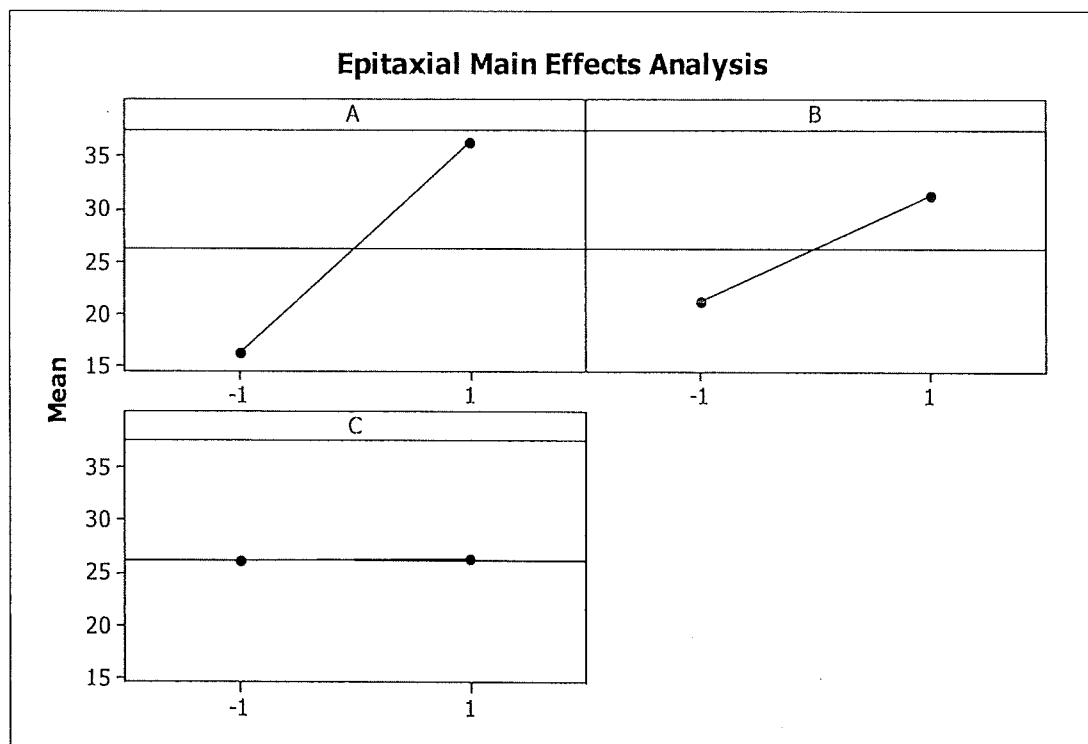
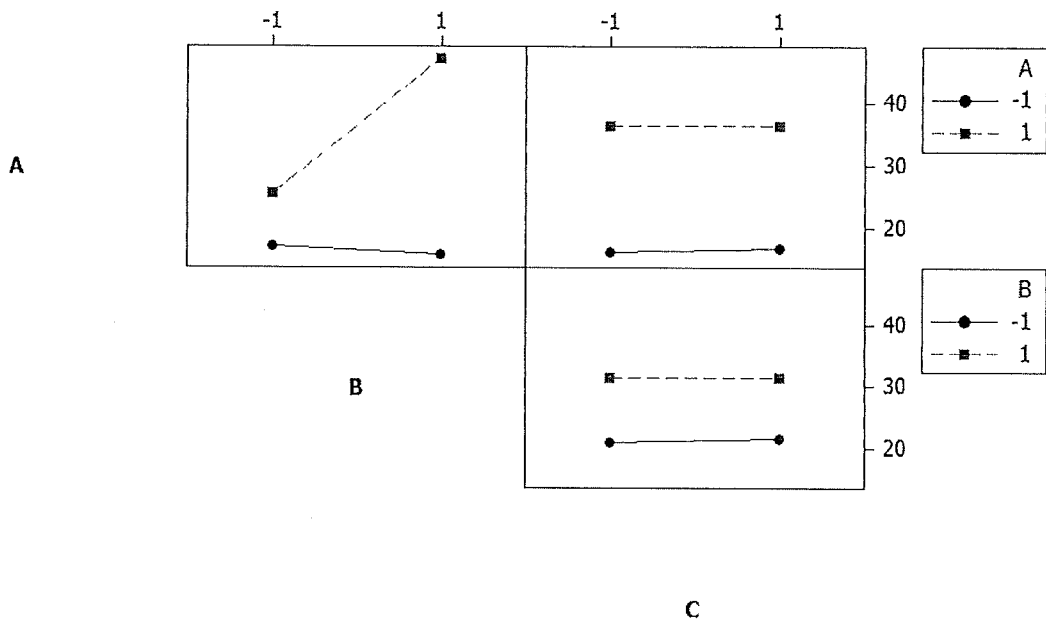
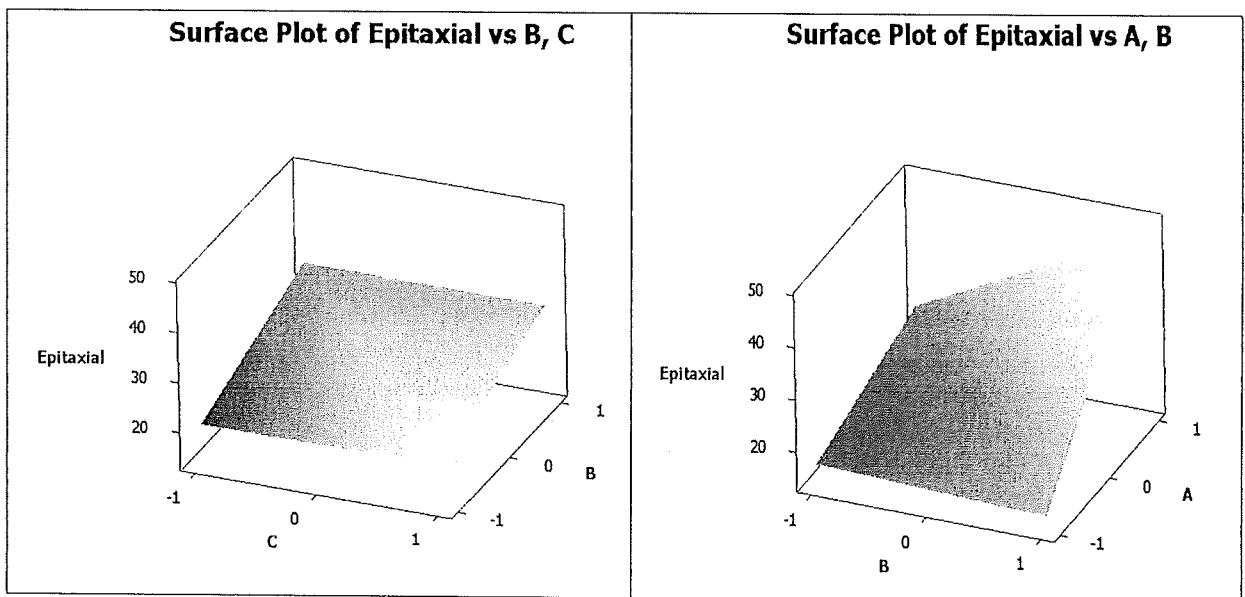

Figure 7 : Epitaxial Main Effects Analysis
Figure 8: Epitaxial Interaction plot
Figure 9 : Epitaxial Surface plot
- (ii) Conduct an analysis for main effect Figure 7 , interaction Figure 8 and surface plot Figure 9 for epitaxial. Which factors and interactions are important?